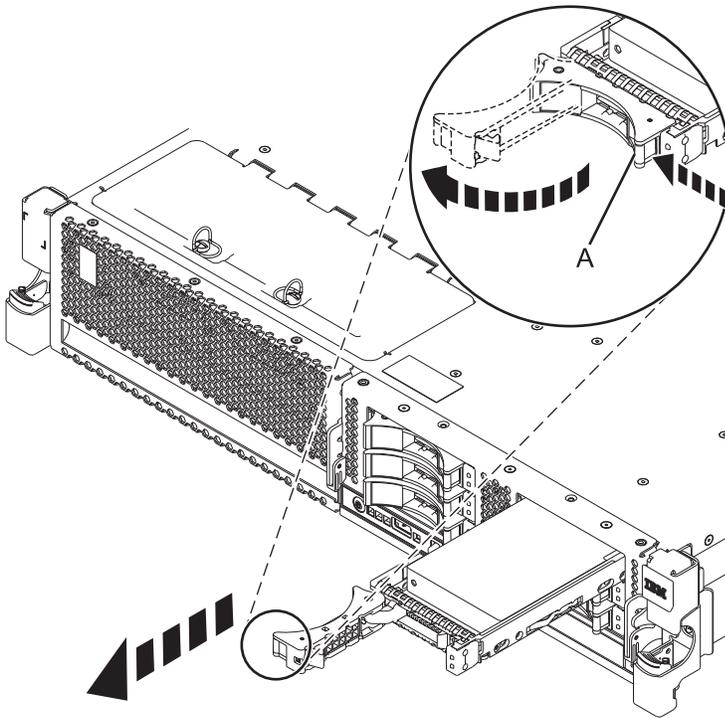

Figure 29. Removing a disk drive from the 8231-E2B, 8231-E1C, or 8231-E2C
1. Unlock the disk drive handle by squeezing it and pulling it out toward you, as shown in Figure 29.